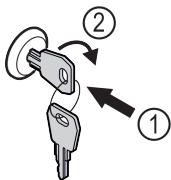

Fig. 166 Example illustration
- Insert key Fig. 166 (1).
- Turn key clockwise by 90° Fig. 166 (2).